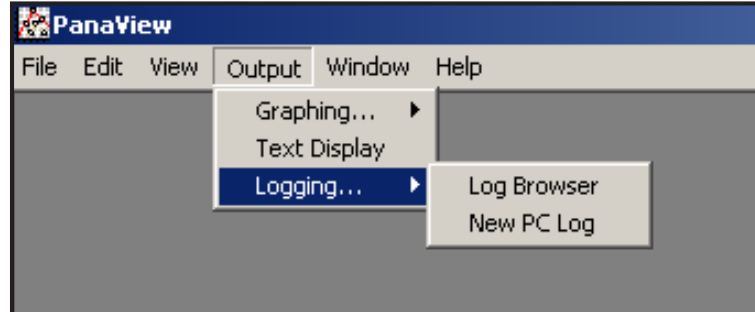

Figure 13: Selections in the Logging Option
1. Open the *Output* menu (see *Figure 13* below), and click on the *Logging* option.
- Pull down the *Output* menu (see *Figure 13 on page 57*), and click on the *Log Browser* option. Advance to the *PC Logs* dialog box as described in previous sections. A screen similar to that shown in Figure 23 appears.